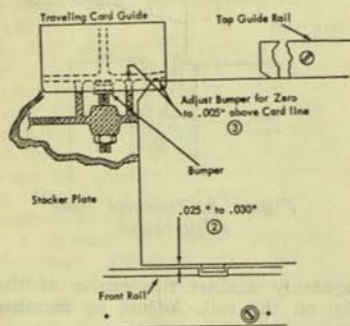

Figure 10. Stacker Adjustment
2. Register a card in the read station and space it about half-way through. Position the stacker bed plate for a clearance of .025" to .030" from the bottom of the card to the narrow rail on the bed plate (Figure 10, step 2).
3. Adjust the traveling card guide bumper to put the vertical surface of the traveling card guide in line with the top rail and not more than .005" above. This position can be determined by laying a straight edge (.0125"-.018" thickness gage) along the edge of the top card rail and extending it into the stacker (Figure 10, step 3).